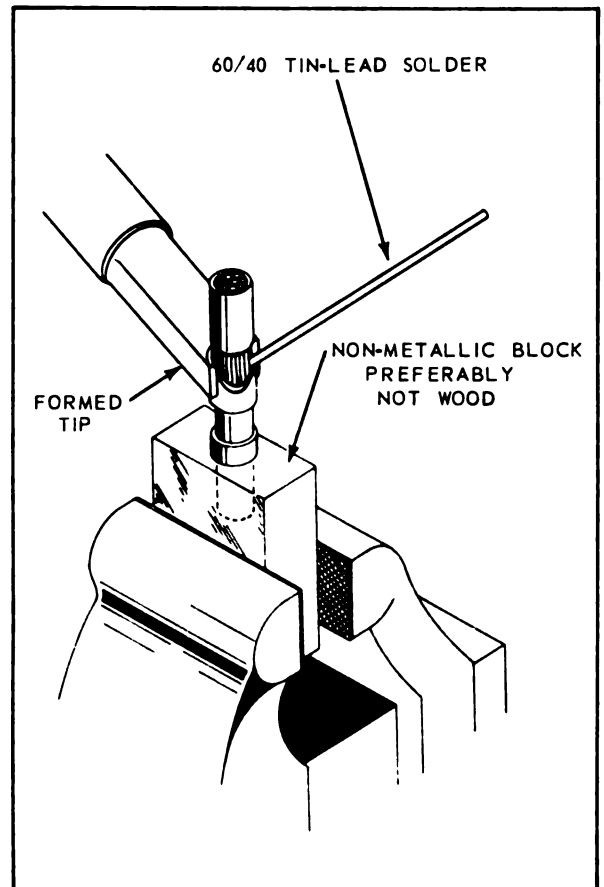

Figure 3-33. Soldering Large Size Contacts
a. Large contacts which have been removed from inserts are held in a non-metallic block and soldered by first heating the solder cup with the specially shaped tip as shown in figure 3-33. Then while heat is still applied, the pre-tinned wire is slowly inserted into the solder cup until it bottoms. Extra 60/40 rosin-core solder is added to the solder cup if necessary. Hold the hot iron to the solder cup until the solder has flowed into a smooth fillet, then allow to cool.